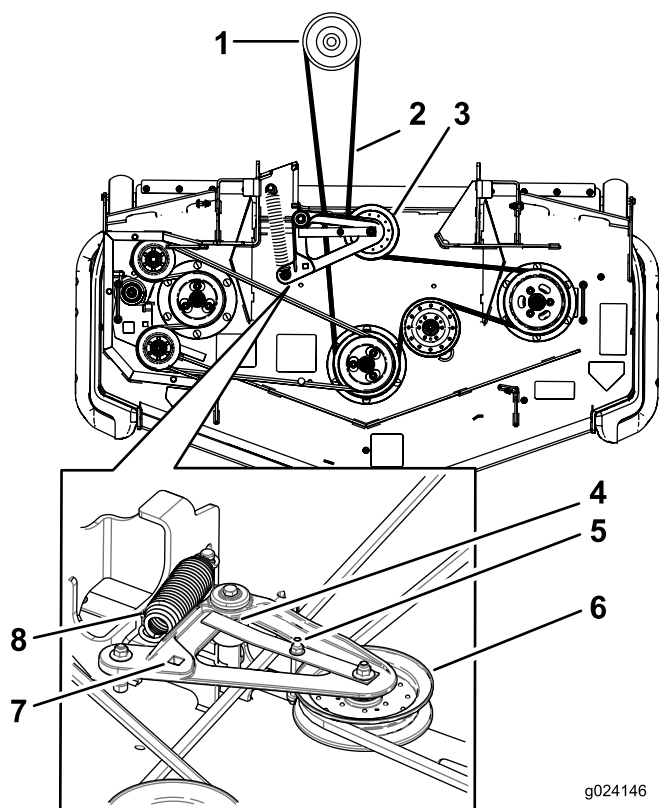

Figure 103
5. Lift up the floor pan and insert a ratchet into the square hole in the deck idler (Figure 103).
6. Rotate the mower deck idler clockwise, lift up on the belt-guide tab and remove the mower deck belt from the clutch (Figure 103).